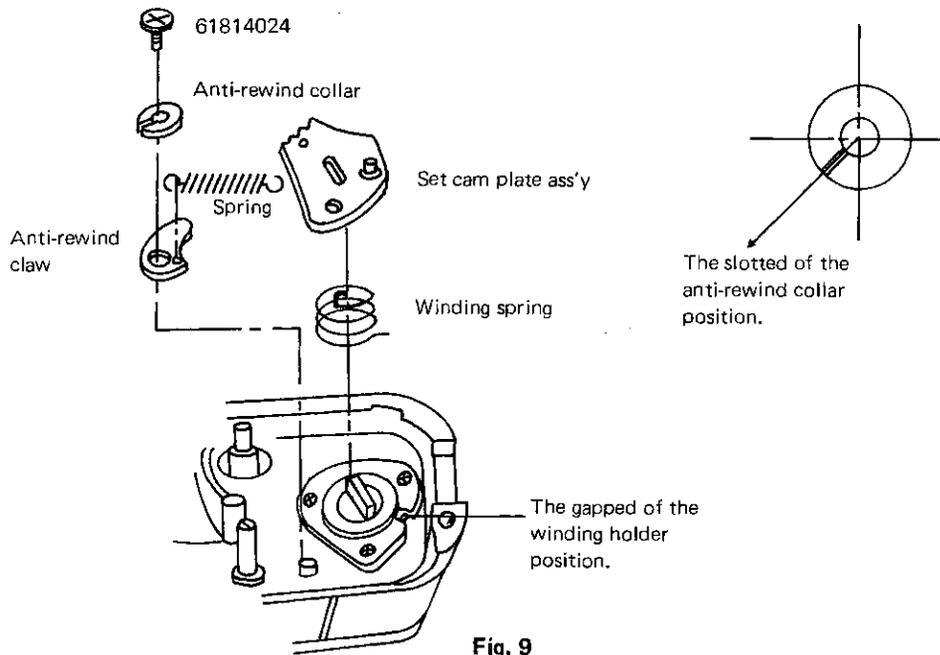

Fig. 9
(5) Mount the anti-rewind claw and the anti-rewind claw collar at the position shown in the Fig. 9, and connect the anti-rewind claw spring.